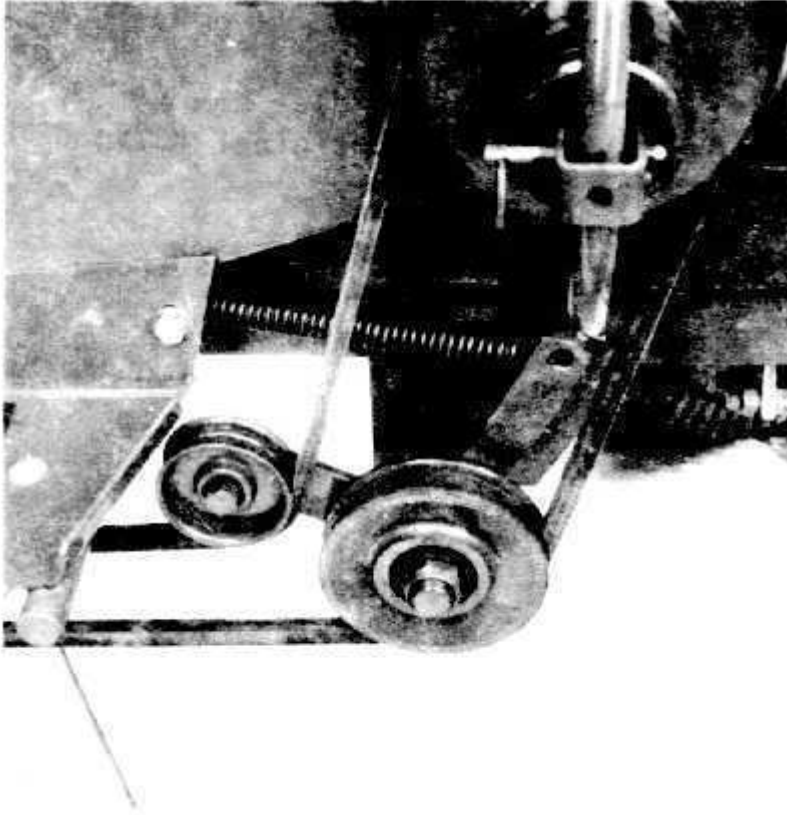

FIG. 1
4.2 Install the V idler #101763 and spacers on the new idler shaft assembly #104089 as shown in Fig. 1.
4.3 Install the new flat stamped idler pulley #MW-8821 on the idler arm as shown in Fig. 1 using the 3/8" bolt and nut that held the original #6740 pulley in place.
4.4 Install the new hitch shaft and pulley assembly in the mid hitch as shown in Fig. 1.
4.5 Refer to Fig. 1 and remove the 5/16-18x2 front foot rest to belt guard whizlock bolt and replace it with the 5/16-18x1 Whizlock bolt furnished. Place a 5/16-18 Eslock nut on the end of the bole leaving room to hook the idler spring over the bolt between the nut and the belt guard.
4.6 Connect the new #6135 idler spring as shown in Fig. 1 between the idler arm and the foot rest bolt.